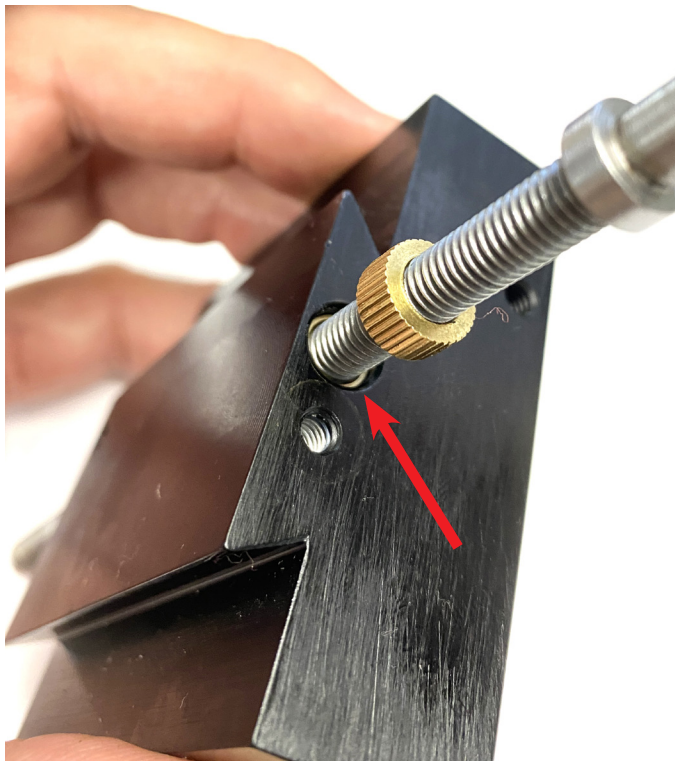

FIGURE 4—The red arrow is pointing to the slide nut. Note that it is below the face of the saddle.
2. Insert the slide screw assembly into the lathe saddle until the slide nut bottoms out on the shoulder of the counter bore as shown (see Figure 4). The end of the slide nut should be approximately .070" below the face of the lathe saddle.